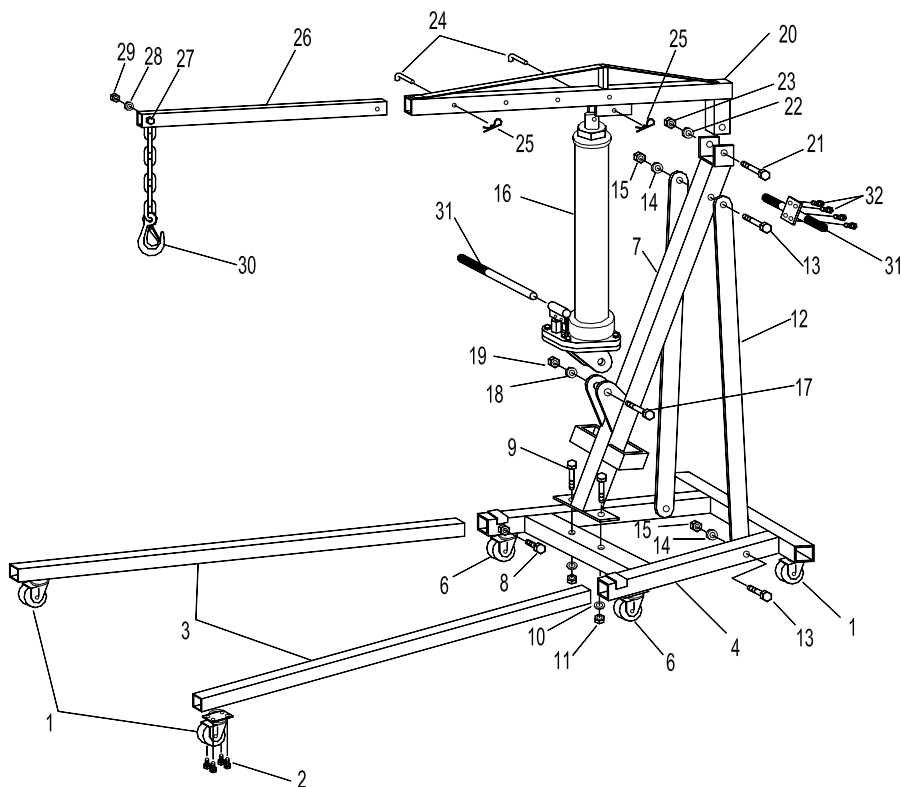

Fig. 3 - Assembly Illustration
- 1. Remove lock pin (Ref. No. 24 in figure 3) from the boom.
- 4. Remove bolts (Ref. # 8 in figure 3) of left and right legs of the crane.